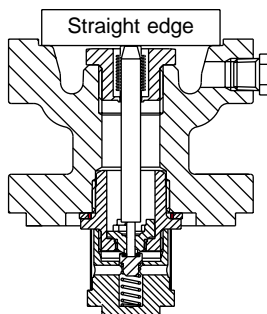

Fig. 3
12. After locating the bellows seal assembly (12) carefully over the plunger (13) tighten down to a torque of 115 N m.
13. Check with straight edge again, that with the top of the bellows pressed lightly onto the top of the plunger, there is a slight clearance - a mere line of light between the straight edge and the top of the bellows (see Figure 3. 'G' pilot valve illustrated).
14. Before reassembling valve make sure that the gasket faces on both the pilot valve block and the body are clean and that the main valve spring (20) is positioned correctly on top of the main valve head (21).
15. Fit new gasket (19) and secure the pilot valve chamber assembly onto the body with the nuts (11). Tighten these nuts to the torques shown in Table 1.
17. Refit the two diaphragms (10) making sure that they are fitted the same way round as they were removed and that all contact surfaces are clean.